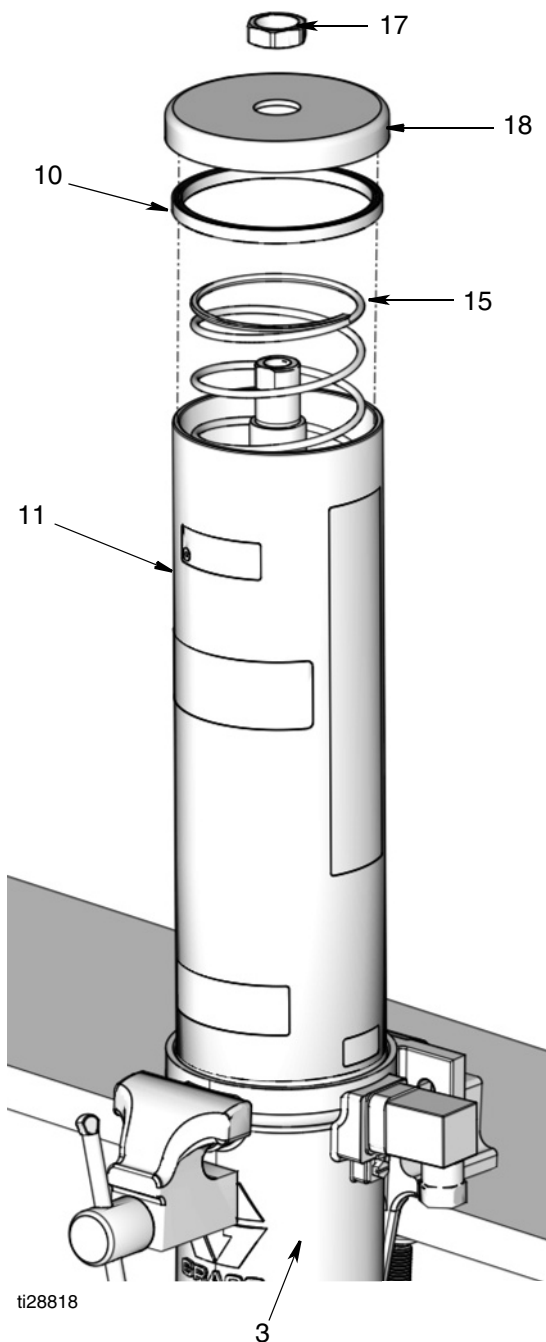

FIG. 14
10. Remove cover (18) and spring (15) from reservoir (11).
11. Remove reservoir (11) from the air motor cylinder (3) (FIG. 14). If replacing reservoir gaskets (10), remove gaskets from reservoir. Dispose of gaskets according to all regulations for proper disposal.